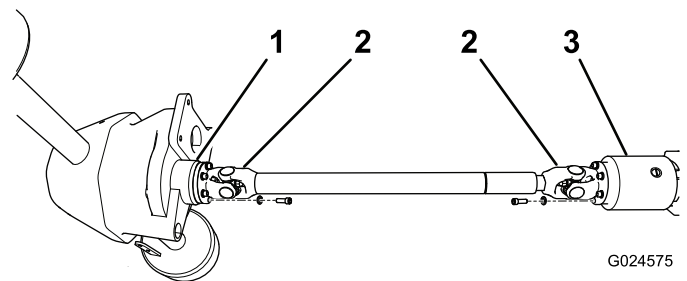

Figure 5
- Mount the drive shaft yoke to the flange on rear of the front axle with six (6) socket head screws and lock washers (Figure 5).
23. Mount the other drive shaft yoke to the bidirectional clutch on the rear axle with six (6) socket head screws and lock washers (Figure 5).